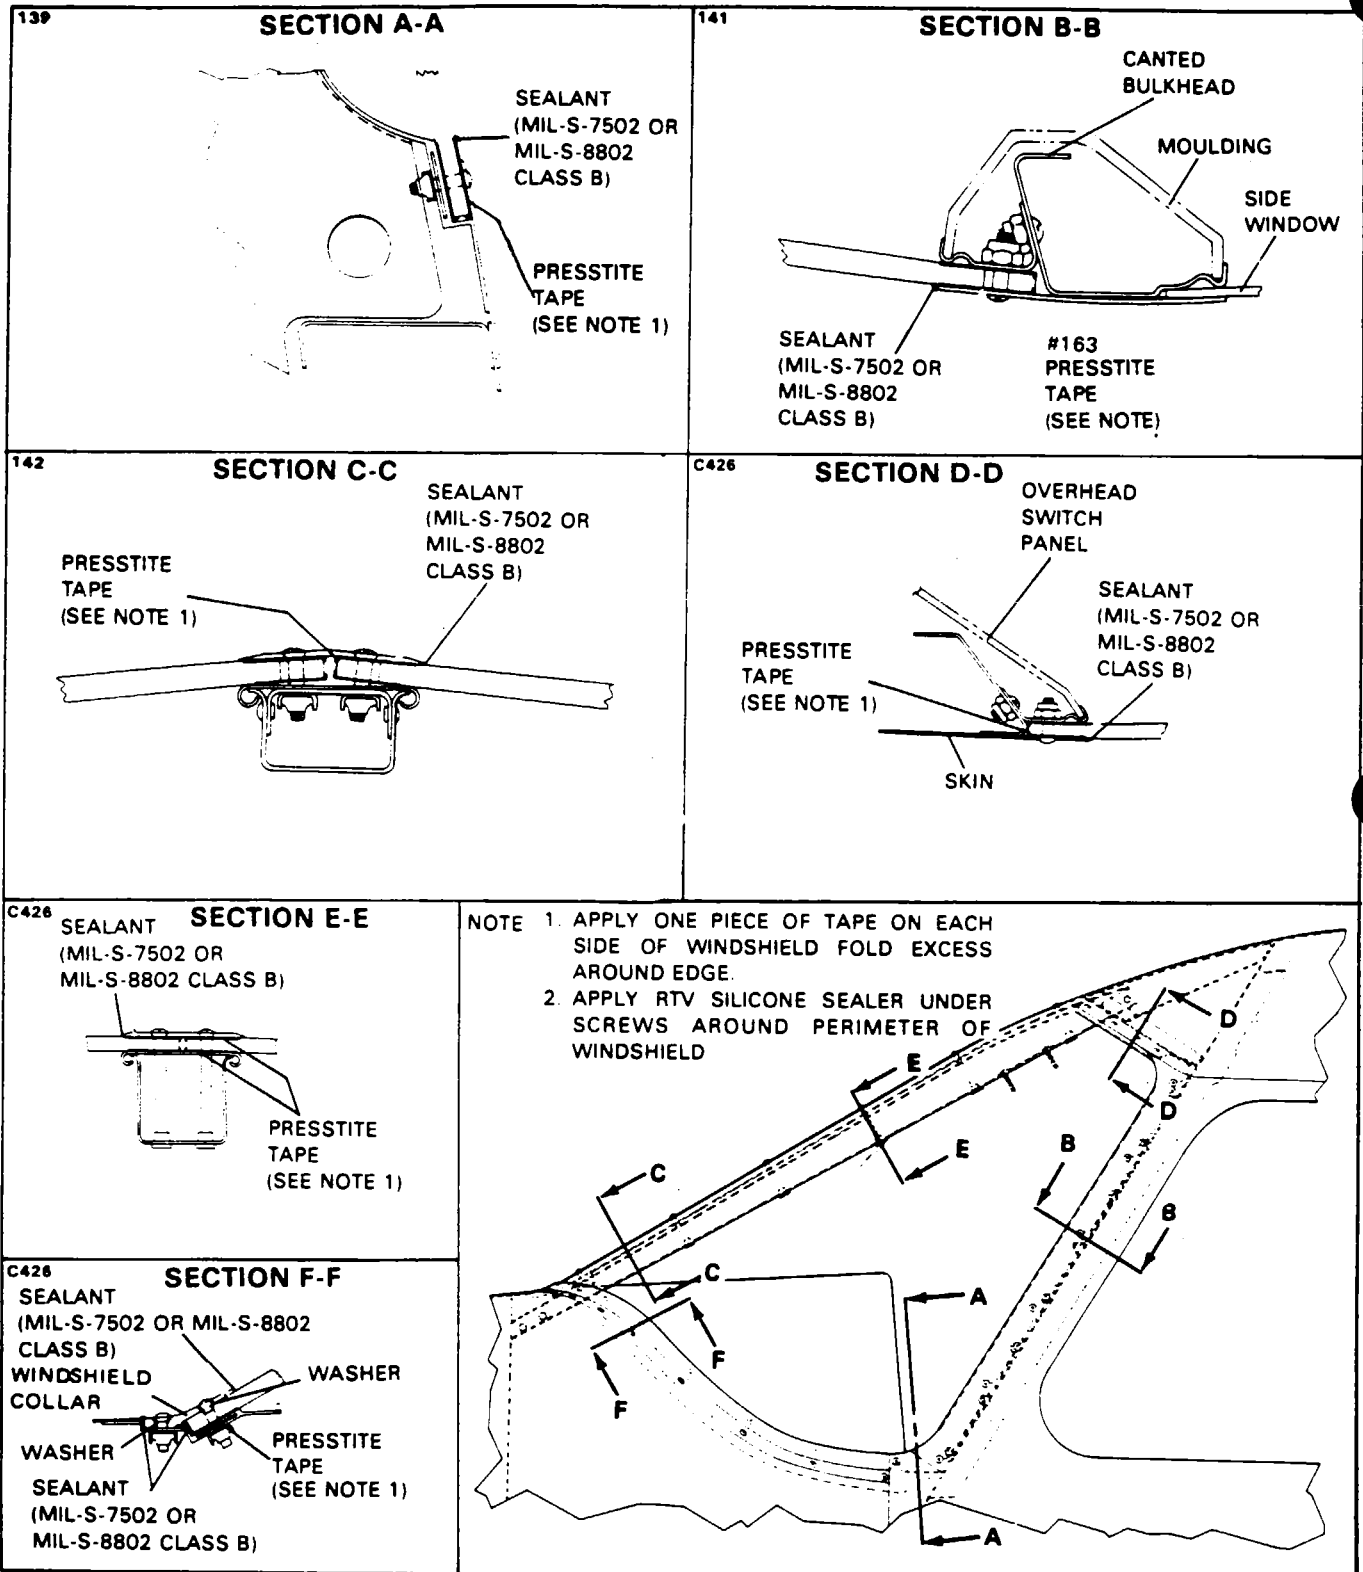

Figure 56-1. Windshield Installation (Standard)
INSTALLATION OF STANDARD WINDSHIELD. (Refer to Figure 56-1.)
11. Then apply sealant (MIL-S-7502 or MIL-S-8802 Class B) as indicated in Figure 56-1 and check for water seepage.